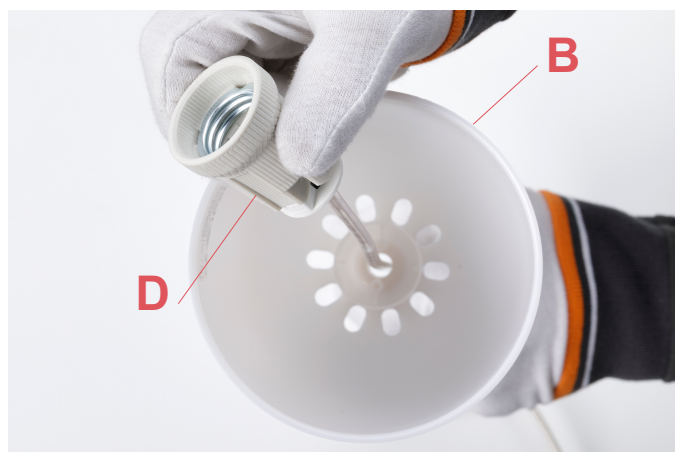

Fig.5
Insert the lamp holder (D) in his apposite position inside the internal diffuser (B). (Fig.5 page 9)